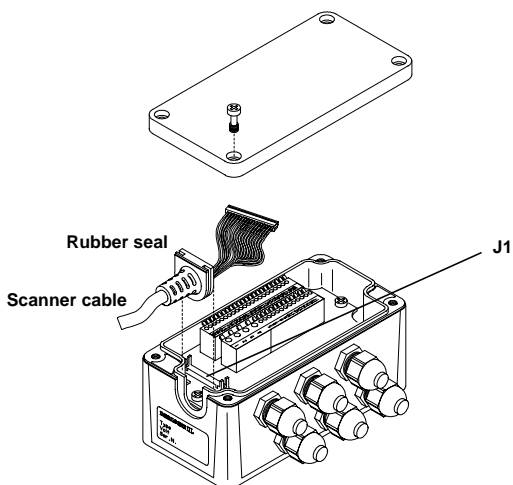

Figure 9 - Scanner cable connections to the junction box
- 4) After wiring the junction box and while the scanner is unplugged from the power supply, place the Scanner cable so that the rubber seal fits into the cutout in the housing of the junction box and plug the 24-pin connector into connector J1 on the PCB inside the junction box as shown in Figure 9.